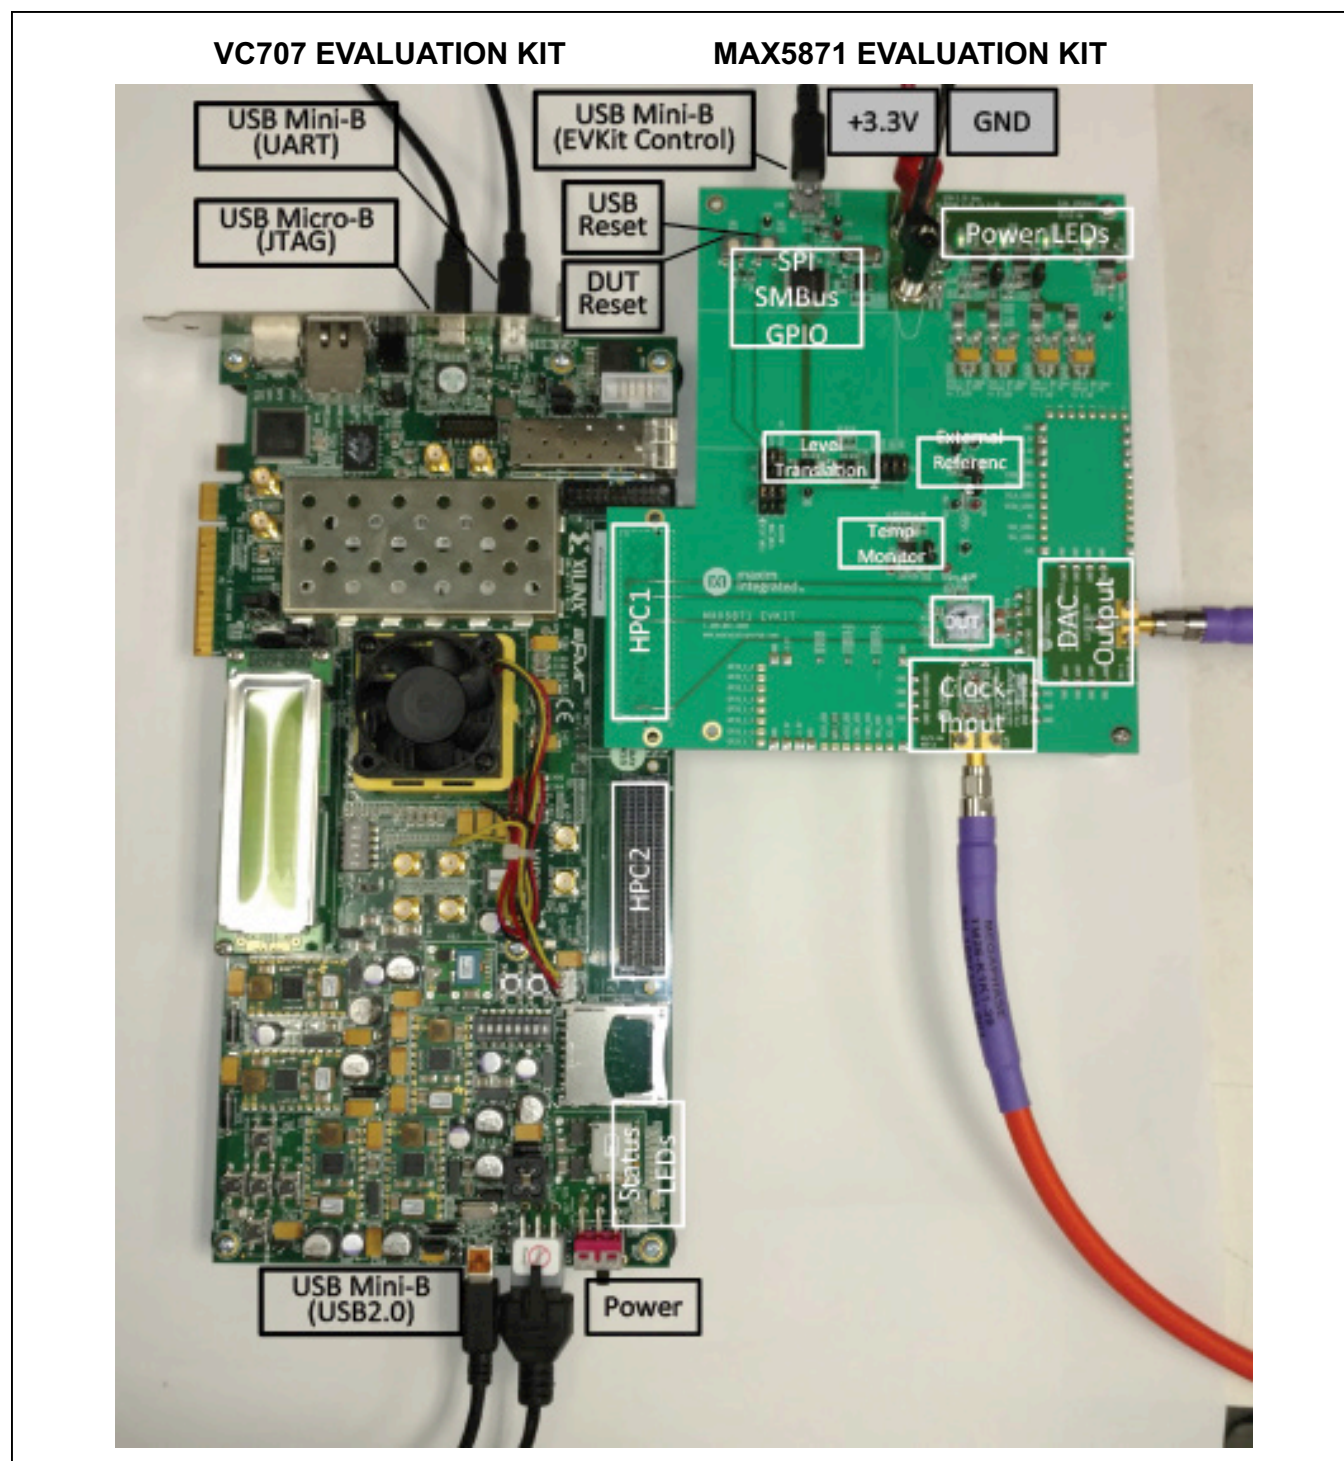

Figure 1. MAX5871/VC707 Evaluation Setup
- 2) Setup and Connect the MAX5871 board (refer to Figure 1)